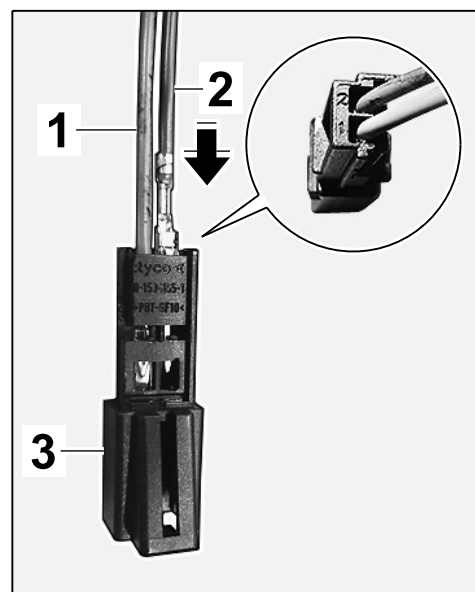

Figure 10
- 2.3.3 Insert socket contact of BN line $\Rightarrow$ Figure 10 -2- into chamber 2.
Insert socket contact of GY/YE line $\Rightarrow$ Figure 10 -1- into chamber 1.